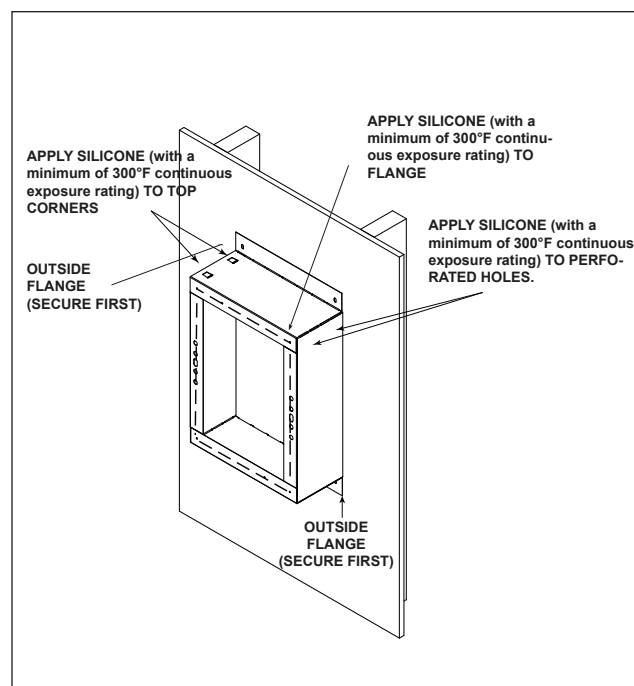

Figure 2.10 HEAT-OUT-BEK Attached to Wall
7. Place assembled box over the framed opening in the wall with outside flanges oriented vertically and held tight to the building exterior. See Figure 2.10.
8. Drive two of the supplied #8 X 3 inch screws through opposite ends of the two outer flanges. This will secure the HEAT-OUT-BEK extension box to the building and allow for squaring of the HEAT-OUT-BEK. See Figure 2.10.
12. After HEAT-OUT-BEK has been installed and the finishing of the wall has taken place, apply a bead of silicone (with a minimum of 300° F continuous exposure rating) to the HEAT-OUT-BEK around the entire metal flange, as shown in Figure 2.10 with the dotted line.